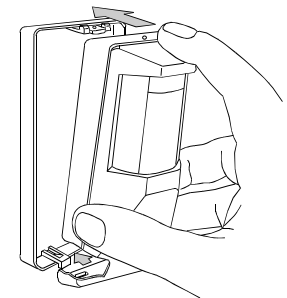

Figure 8. Replacing the Cover
C. To close the case, insert the legs located on the bottom of the base into their respective slots in the bottom of the cover. Then close by exerting slight upward pressure on the cover (see Fig. 8).